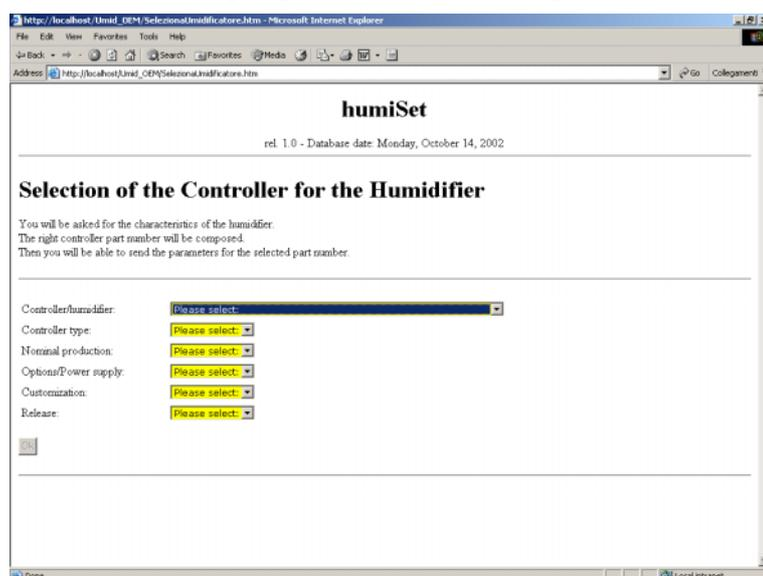

Figure 33
- If the communication is active, the following page will be displayed (Figure 33):
- The firmware in the controller might be more recent than the database in **humiSet**. In this case, it is possible to find the updated database for the new versions of the controller firmware in <http://ksa.carel.com> as shown in the of Figure 33, or contact directly Carel. Anyway, we suggest checking carefully the previous points.